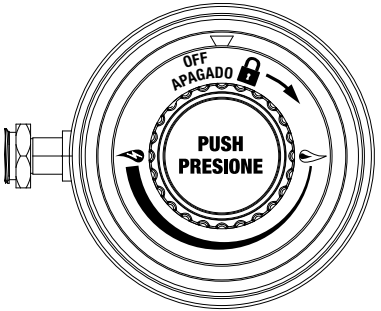

Figure 2
1. Make sure the regulator/control knob is in the “OFF  ” position (Figure 2).
1. Turn the regulator/control knob to the “OFF  ” position (Figure 2).
2. Make sure regulator/control knob is in the “OFF  ” position (Figure 2).
1. Turn regulator/control knob to the “OFF 🔒” position (Figure 2).